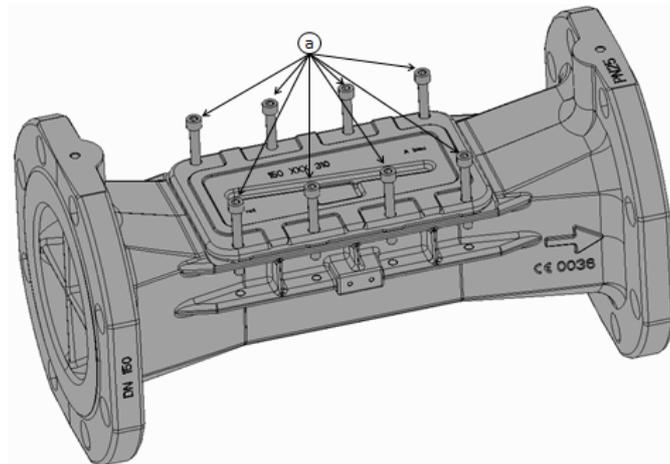

Fig. 6: Screws "a"
- Screw in the 8 screws "a" (see figure 6) with 35 Nm.
- Loosen the screws "a" (see figure 6).